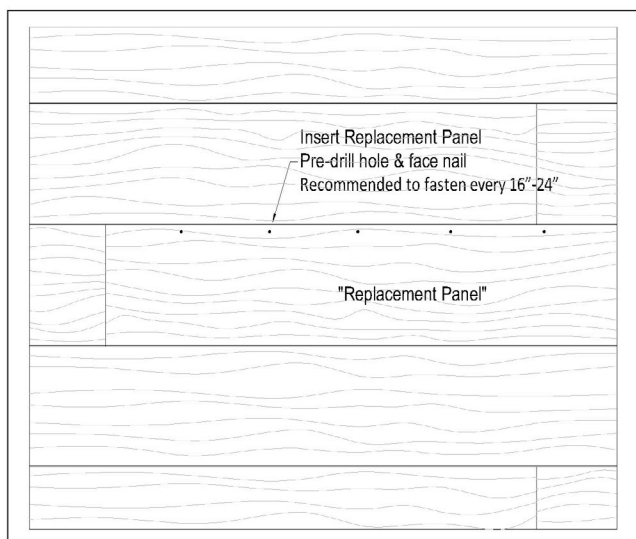

Figure 12
- Insert the plank, pre-drill holes along the top of the panel. The holes should be at least 1/16" larger in diameter than the trim nails (Figure 12).
- Insert the plank with pre-drilled holes & face nail every 16"-24" along the top of the panel using color matched trim nails. Or you can paint the head of the fastener (Refer to the Everlast website for Sherwin Williams color-match paint codes) (Figure 12).